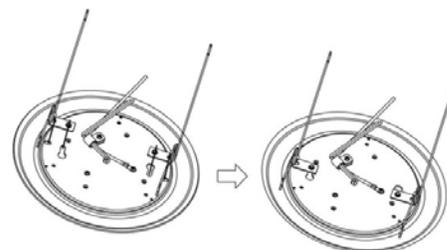

Figure 2
4. Affix the spring sets to the fixture using the screws provided. (Figure 2)